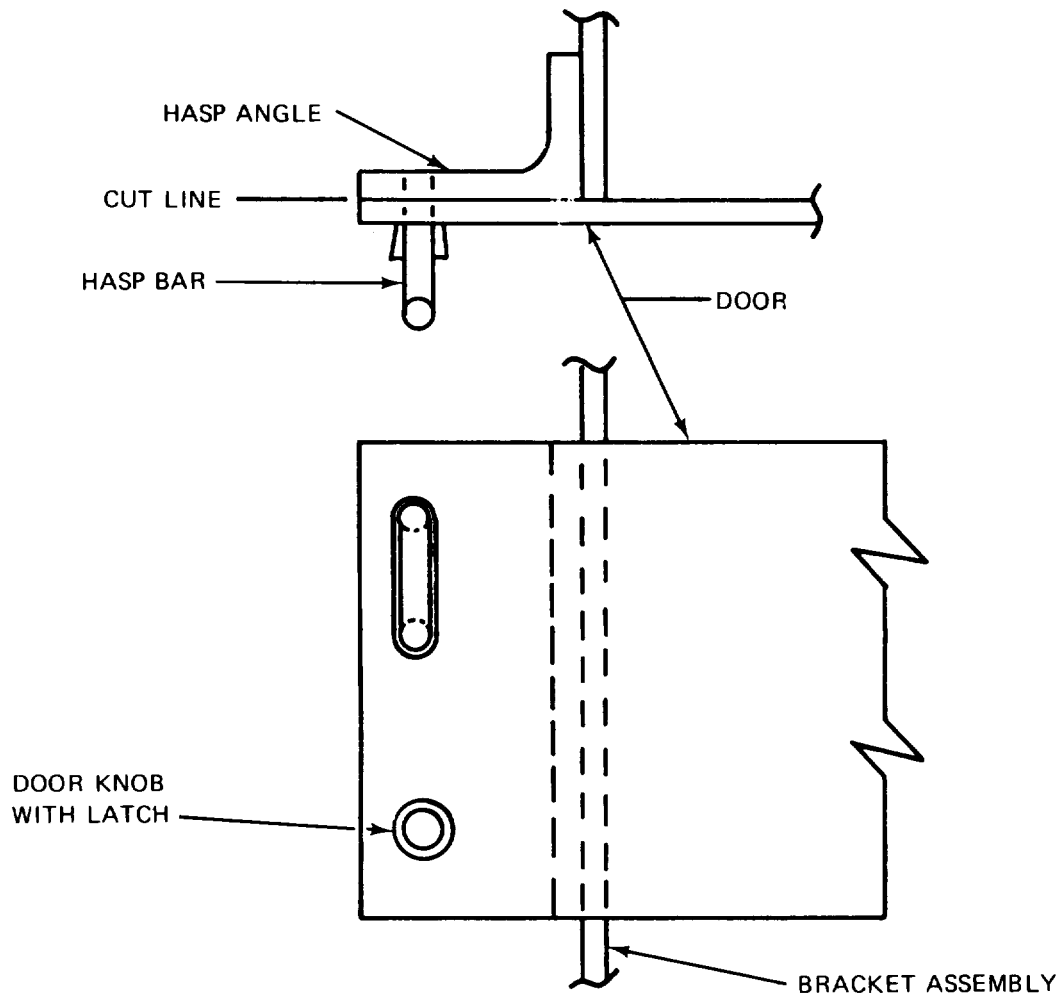
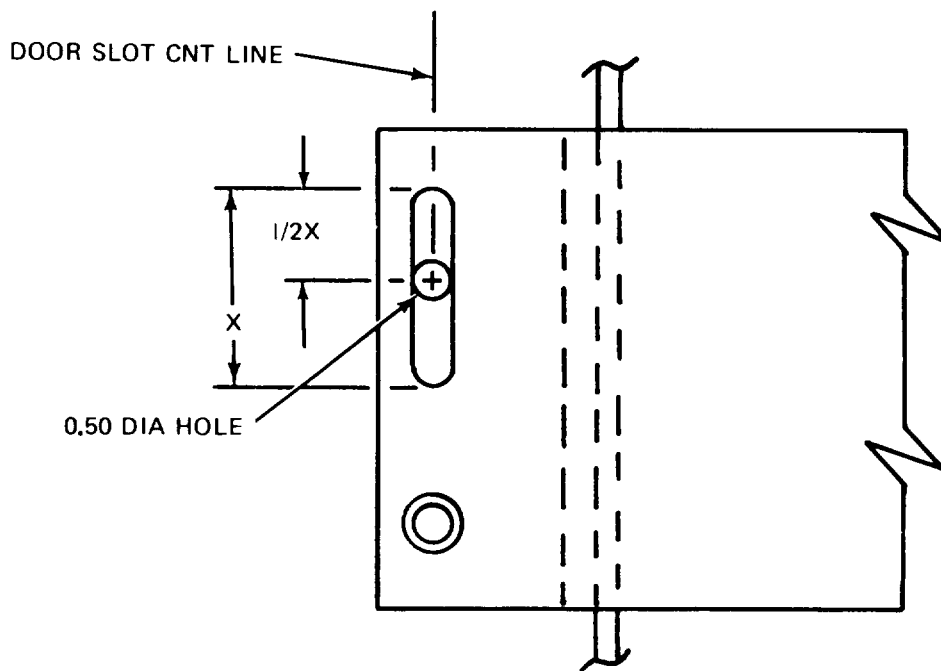

Figure 3-23. Bracket Assembly Door and Hasp
Figure 3-24. Modified Bracket Assembly Door
There are two different door configurations on bracket assemblies PN 13043958 supplied in the DRAGON APC kit. The door configuration, containing the lock hasp (see figure 3-23) must be modified to the configuration shown in figure 3-24 in accordance with the following procedure:
- b. Using a hack saw, cut the hasp bar off as indicated in figure 3-23.
- d. On the hasp angle face locate and center punch for a hole as shown in figure 3-24.